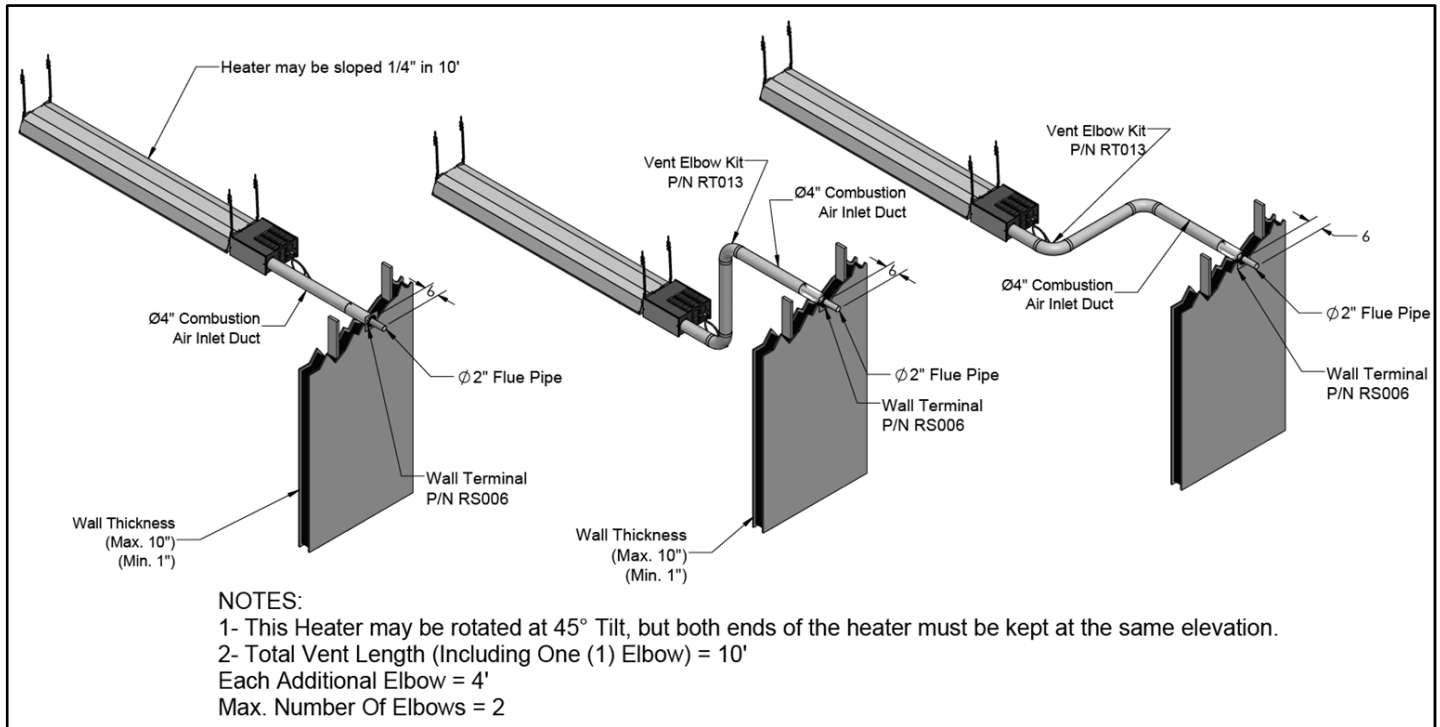

Figure 7: Various Venting Orientations
- This equipment is of balanced flue construction and must **be horizontally vented** (see Figure 7). Vertical venting is permitted, but not as a balanced flue assembly. (See roof venting)